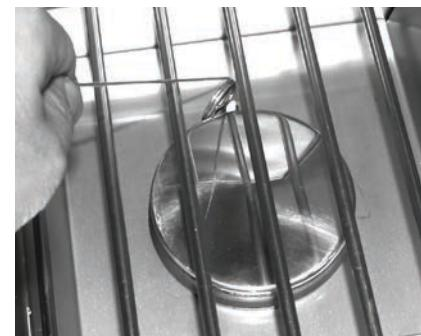

Fig. 27-2 Manual lighting
**CAUTION:** Always wait five (5) minutes for gas to clear after any unsuccessful lighting attempt.
2. Insert either a burning long-barrel butane lighter, a burning long-stem match, or a burning match held by a wire extension holder through the cooking grid opening to the burner (Fig. 27-2). Hold the flame against the edge of the burner.
4. If the burner does not light within five (5) seconds of turning the control knob, **immediately depress the knob and turn the valve to OFF**. **WAIT FIVE (5) MINUTES** before repeating steps 2 through 4 of the **MANUAL LIGHTING** instructions.